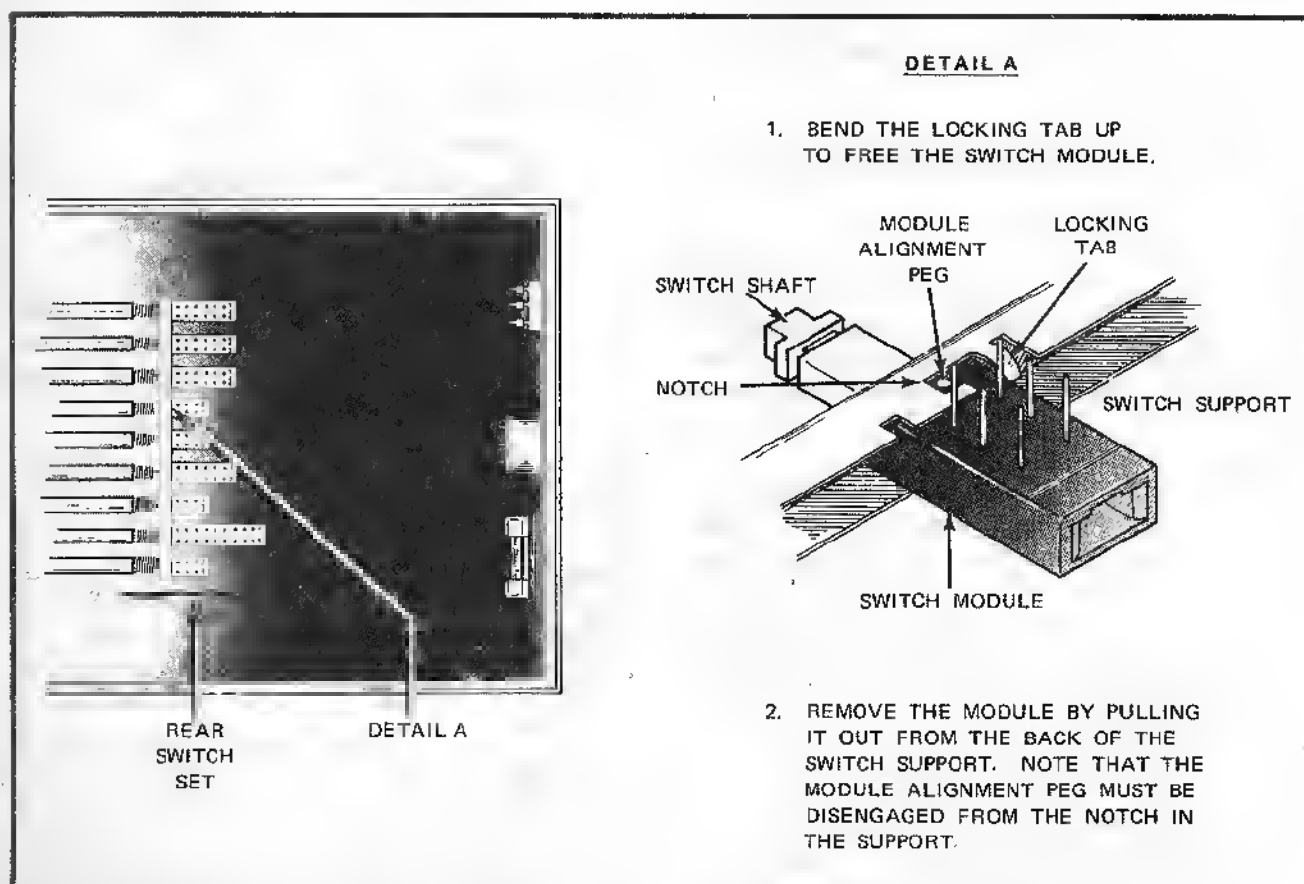

Figure 4.4. MODULE REPLACEMENT – REAR SWITCH SET
4-23. SWITCH MODULE REPLACEMENT – REAR SWITCHES (Figure 4-4).
- d. Bend up the locking tab (on switch support) which holds the defective switch module in position. Remove and discard defective switch module. See Detail A, Figure 4-4.